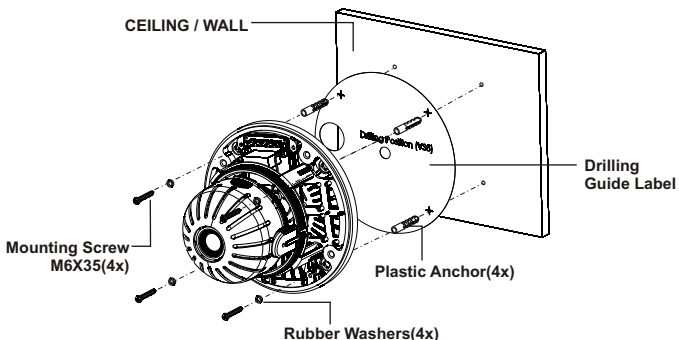

Figure 3
2. Drill the mounting location using the supplied drill guide label. (Fig. 3)
3. Attach the housing to the ceiling using suitable fasteners, M6x35 tapping screws are supplied only use if they are suitable. (Fig. 3)